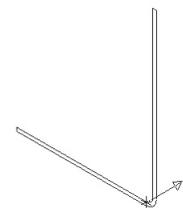

Fig. 27
Step 7. The direction arrow the chain should **point to the right**, **Fig.27**. If the arrow points in the wrong direction, click Reverse It.